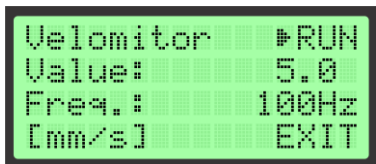
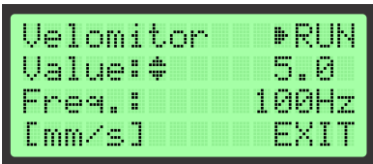
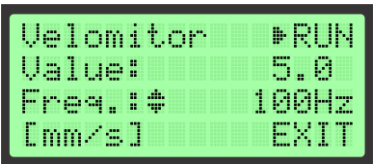

Figure 95 Submenu Screen 2
Figure 96 Changing the Value
Figure 97 Changing the Frequency
User can navigate through this submenu by using Up (▲) and Down (▼) keys. By pointing to the submenu item and by pressing Enter (E) the user will select a parameter which he or she would like to change. The selection of the desired Velomitor sensitivity is confirmed by pressing Enter (E). Pointing to the Menu Item NEXT and pressing Enter (E) will bring the final submenu system (See *Figure 95*), which allows the user to set the desired Velomitors output value (See *Figure 96*) and frequency of the output signal (See *Figure 97*).